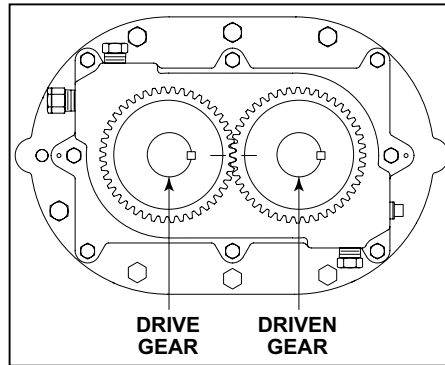

Figure 8 - Timing Marks Matched
4. Align timing marks and count three (3) teeth up and place reference marks on the gears. (Refer to Figure 8)